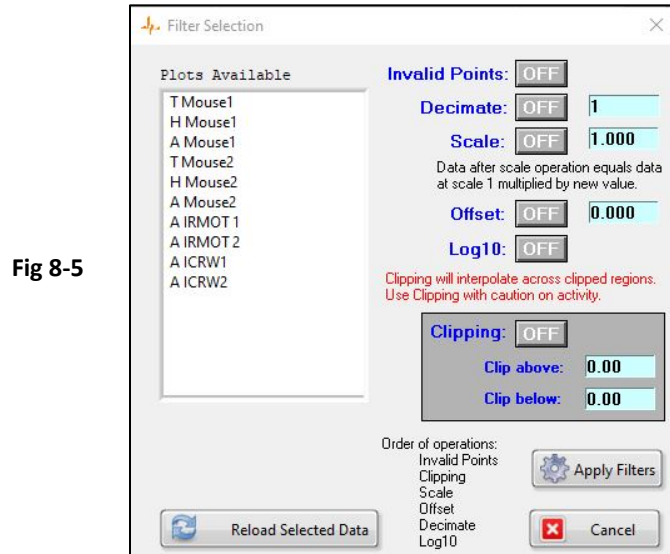

Fig 8-5
- Multiple data series graph - Fig 8-5 should appear